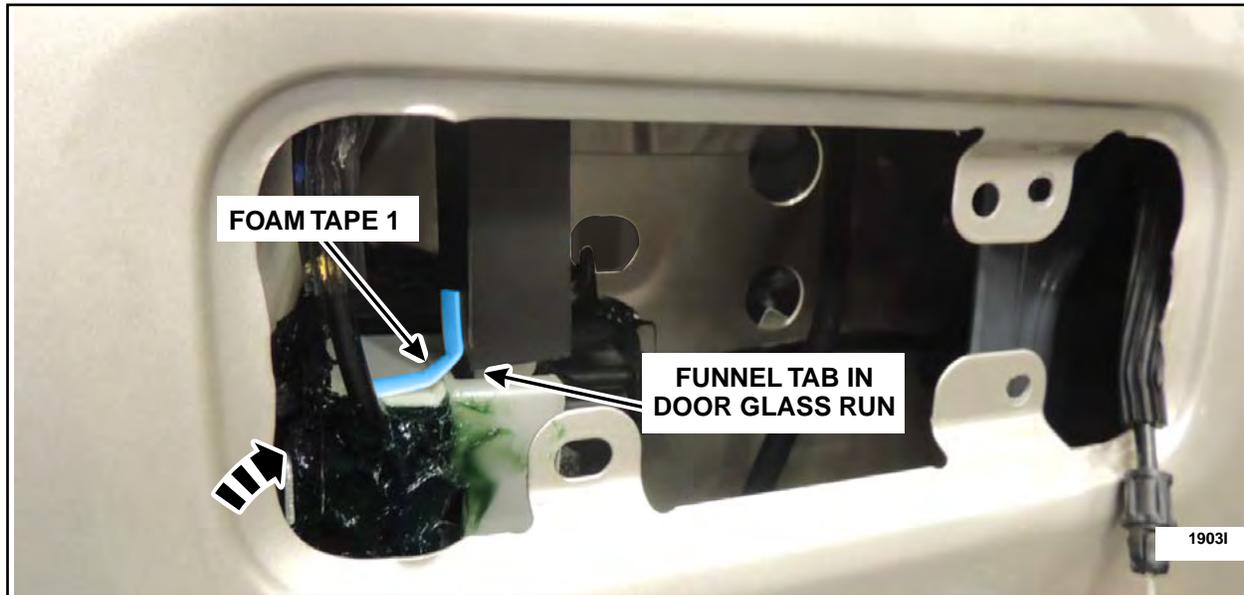

FIGURE 84
11. Apply supplied Foam Tape 1 in the location shown to hold the funnel in place. See Figure 84.